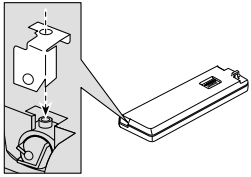

Fig. 11
1. Attach the holder to the front panel. (Fig. 11)